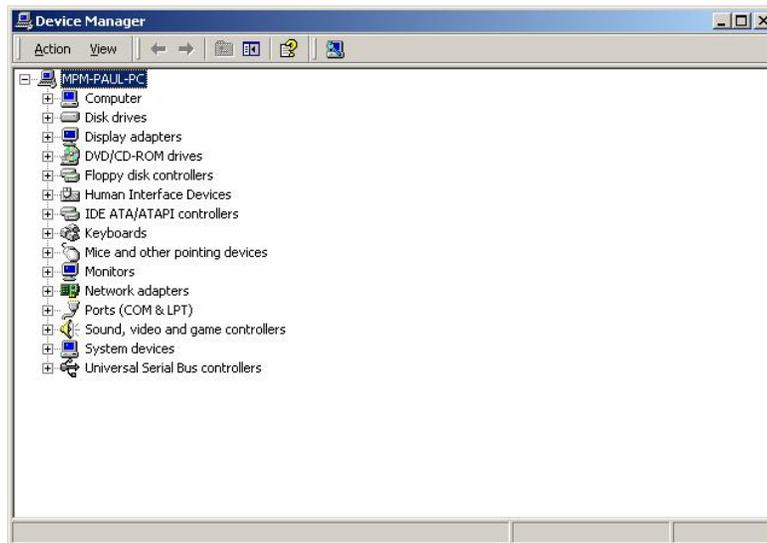

Figure 6-18: Device Manager List
Step 4: A list of system hardware devices appears (Figure 6-18).